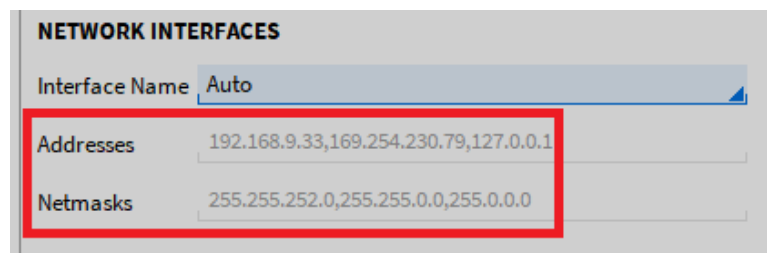

Fig. 4.20: IP addresses of connected TRIONets
- The IP-address of the adapter is shown in the field below (see Fig. 4.20)